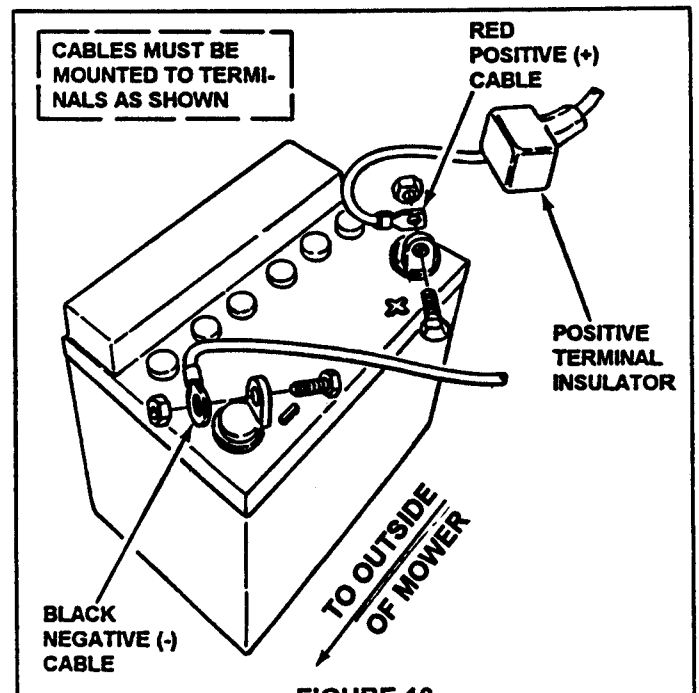

FIGURE 10
- (b) Battery cables **MUST BE SECURED TO BATTERY TERMINALS** as shown in Figure 10, using the 1/4" screws and lock-nuts from the hardware bag.
- (c) Place the positive (+) terminal insulator over positive terminal and cable. Refer to Figure 10.